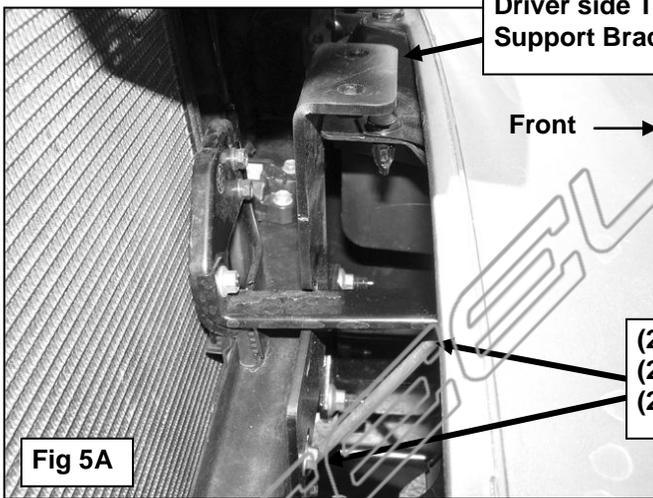

Fig 5A
5. Select the driver side Top Support Bracket, **(Figure 5B)**. Line up the holes in the bottom of the Support Bracket with the threaded holes in the crossmember. Bolt the Support Bracket to the crossmember with (2) 6mm x 25mm Hex Bolts, (2) 6mm Lock Washers and (2) 6mm Flat Washers, **(Figures 5A – 5C)**. **NOTE:** Replace factory 6mm screws, (if equipped), from crossmember with 6mm hardware. Fully tighten the 6mm hardware only at this time.